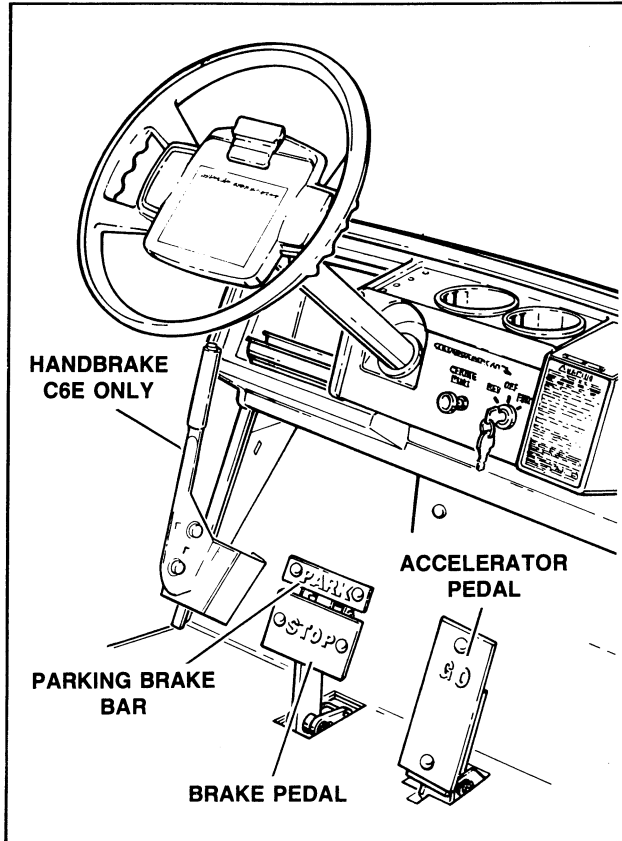

Figure 41 – Parking Brake
19. PARKING BRAKE (Figure 41)
20. HAND PARKING BRAKE (C6E Columbia Shuttle) (Figure 41)